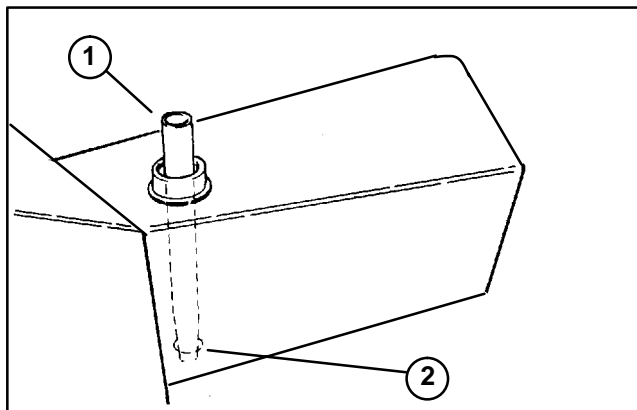

Figure 7
2. If only the filter is to be changed, remove reservoir cap and insert reservoir plug (Fig. 7), to block outlet. This will retain most of the fluid in reservoir when filter is removed.